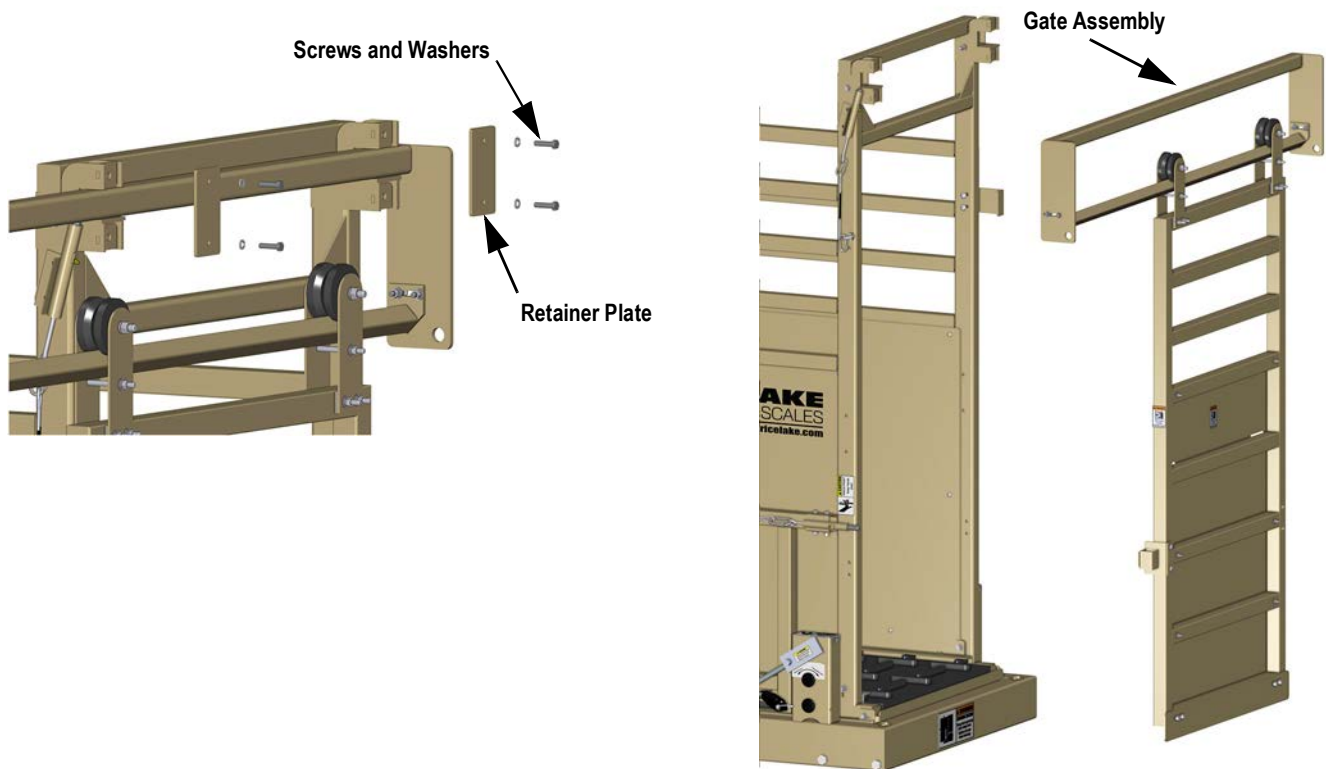

Figure 2-3. Remove Slide Gate with Gate Slide Weldment
1. Remove hardware and retainer plate as shown in Figure 2-3. Retain for reassembly.